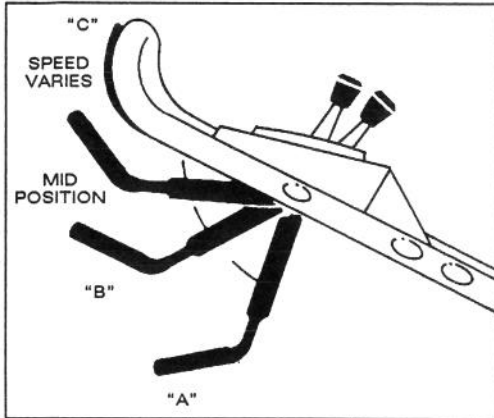

Figure 8
6. **BLADE AND TRACTION OPERATION** (Fig. 8)— Move control bar down to "A" and raise to engage blade "B". Move ground speed control to desired setting and squeeze control bar against handle "C" to drive. Ground speed varies, depending on space between control bar and handle.